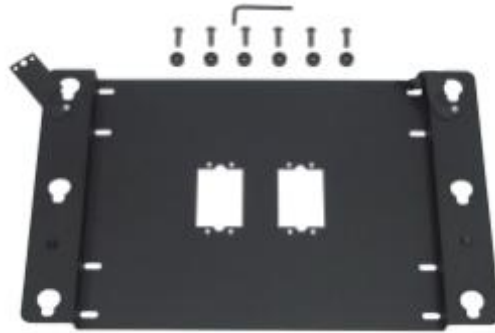

Figure 1
**BEFORE PROCEEDING:** Unpack the carton, verify contents shown in Figure 1 and read installation instructions completely. If you are missing any of the listed components, please contact Customer Service at 1-800/582-6480.